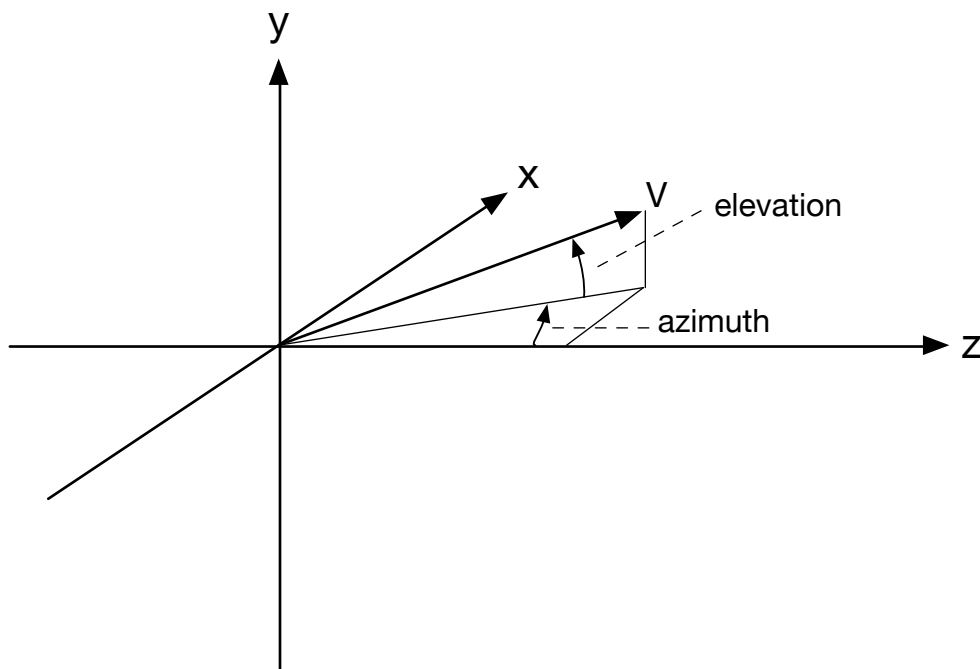

Fig. 2.2.3 Azimuth and elevation angles. These angles are specified as if the origin of the x,y,z axes was at the position of the element center.
**Trans.ElementPos:** The position and orientation of each element in the transducer is defined in the `Trans.ElementPos` array. The `Trans.ElementPos` array has a row index corresponding to the element number and up to five column values specifying the x, y, and z coordinates (in mm or wavelengths) of the center of the element, and the two angle parameters, azimuth and elevation. The azimuth angle is the angle between the normal of the element and the positive z axis and is needed when specifying element positions for curved arrays. The elevation angle is the angle of the element normal to the x,z plane, and is only needed for specifying element positions for certain 2D arrays. The azimuth and elevation angles need not be specified if not required and/or if zero for all elements. See Fig. 2.2.3 below for determining azimuth and elevation angles for an element. Note that for the annular array transducer type, a different meaning is assigned to the five values in `Trans.ElementPos`. See the `Trans.type` section above.